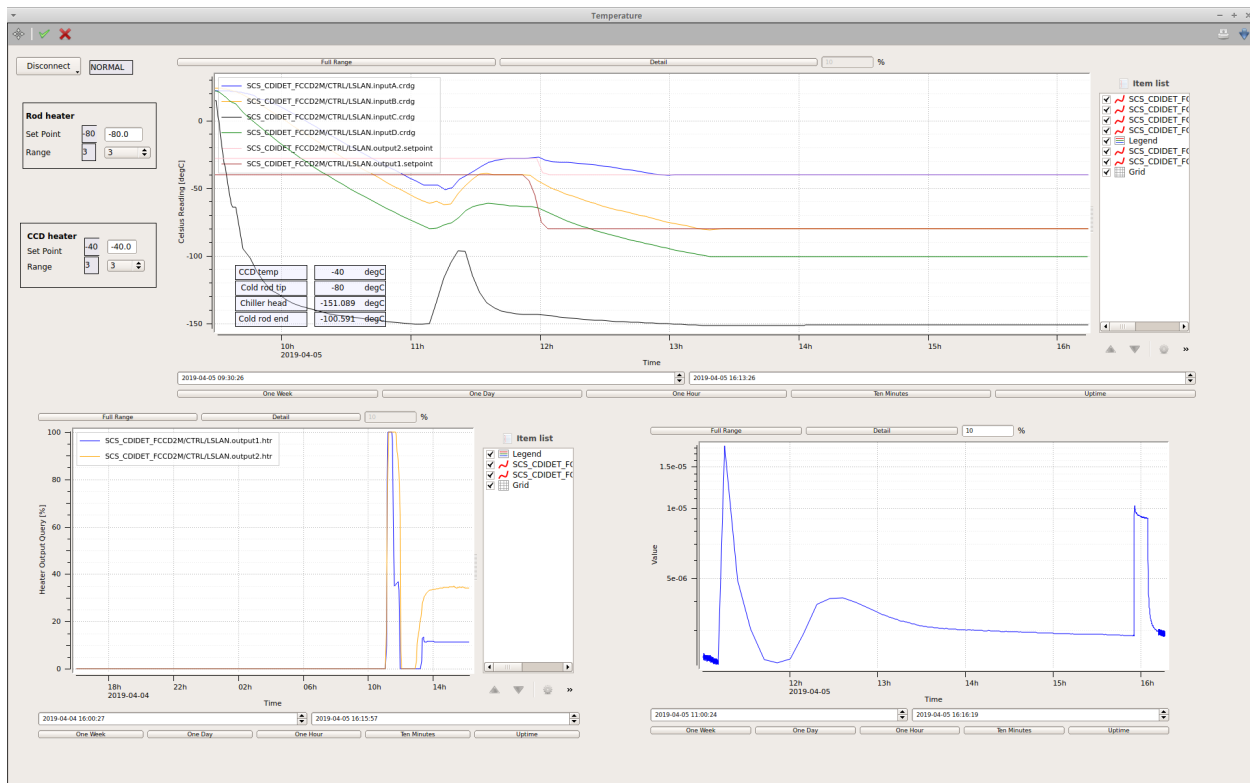

Fig. 3.6: The Temperature scene.
**Temperature:** This scene (see Fig. 3.6) can be used to monitor the temperature sensors in the system, as well as setting the temperatures and heater ranges. Channel A is always the CCD temperature and channel B is usually the temperature of the cold rod. The position of the temperature sensors is shown in the Interlock scene.